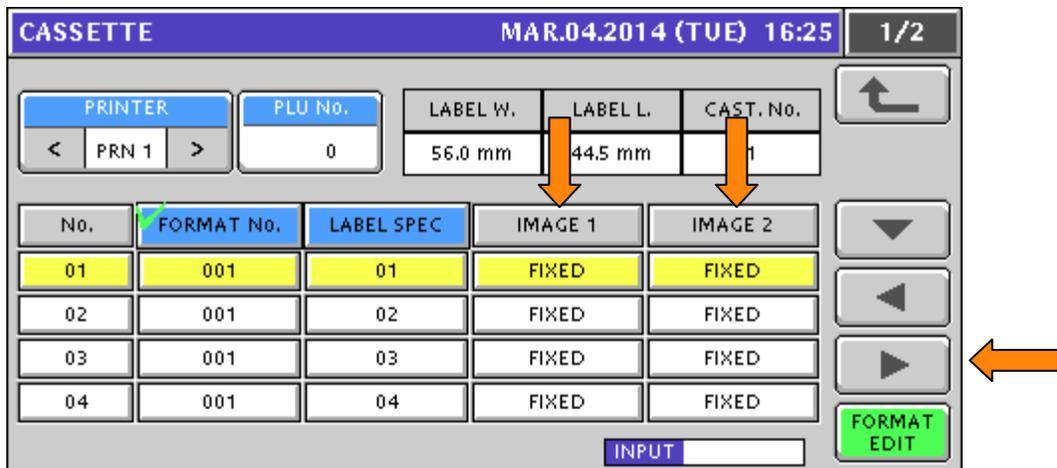

Figure 7.9 Label Cassette Setup: Logo Image 1 Type and Logo Image 2 Type
30. Press the ► button to move to the next page. See Figure 7.9.